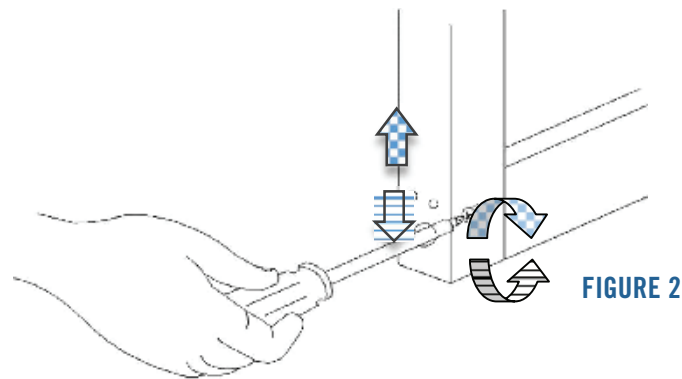

FIGURE 2
26. Once all panels are installed and adjusted, affix pocket closure plate (Part #13) and pocket closure support brackets (Part #24) to the pocket panel as shown in Figure 1. The plate and support bracket generally should be in line with the horizontal cut on the top of the pocket panel interlock as shown in Figure 2, however the roller adjustment will dictate the final positioning of the pocket closure plate. The pocket closure plate runs the span of the pocket panel and should hide the interior of the pocket while the door is closed. The pocket closure support brackets should be positioned at the top, middle, and bottom of the panel. Use screws (Part #4) every 12 inches down the vertical stile of the pocket closure plate and use 2 screws through the pre-drilled holes in each pocket closure support bracket.